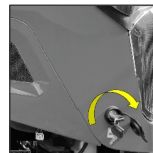

Fig. 4.9
1. Firstly, insert the key into the keyhole provided at the front of bonnet as shown in (fig. 4.9) Rotate it clockwise direction.